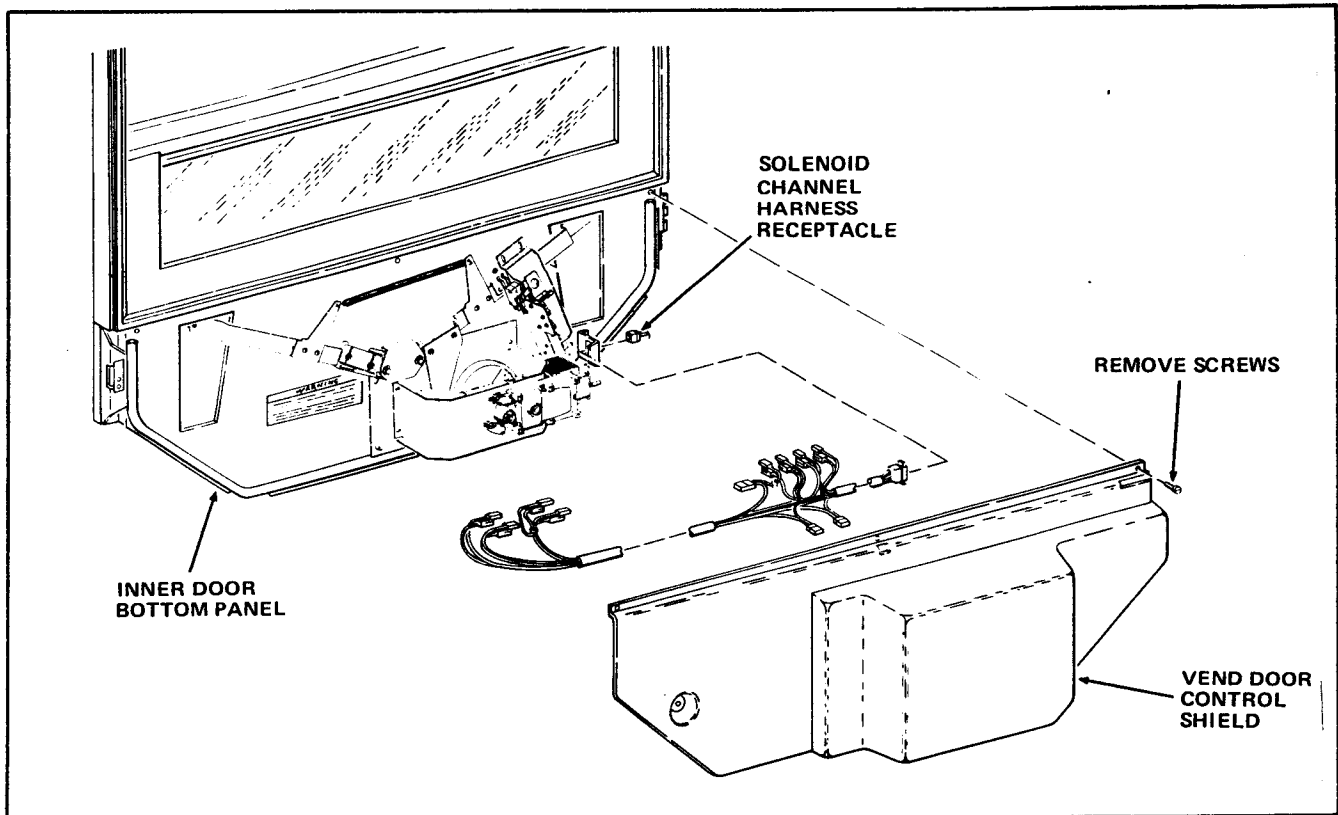

FIGURE 1
4. Remove five Screws and the Vend Door Control Shield from the Merchandiser. See Figure 1.
7. Disconnect the Solenoid Channel Harness Receptacle from the Delivery Door Harness Plug and pull the Delivery Door Harness Plug free of the Plug Bracket on the Inner Door Bottom Panel. See Figure 1.
5. Insert the Delivery Door Harness Plug into the Plug Bracket and connect the Solenoid Channel Harness Receptacle to the Delivery Door Harness Plug. See Figure 1.
8. Install five Screws and the Vend Door Control Shield, removed in Step A-4, into the Merchandiser. See Figure 1.
3. Insert the Delivery Door Harness Plug into the Plug Bracket and connect the Solenoid Channel Harness Receptacle to the Delivery Door Harness Plug. See Figure 1.
7. Install five Screws and the Vend Door Control Shield, removed in Step A-4, into the Merchandiser. See Figure 1.